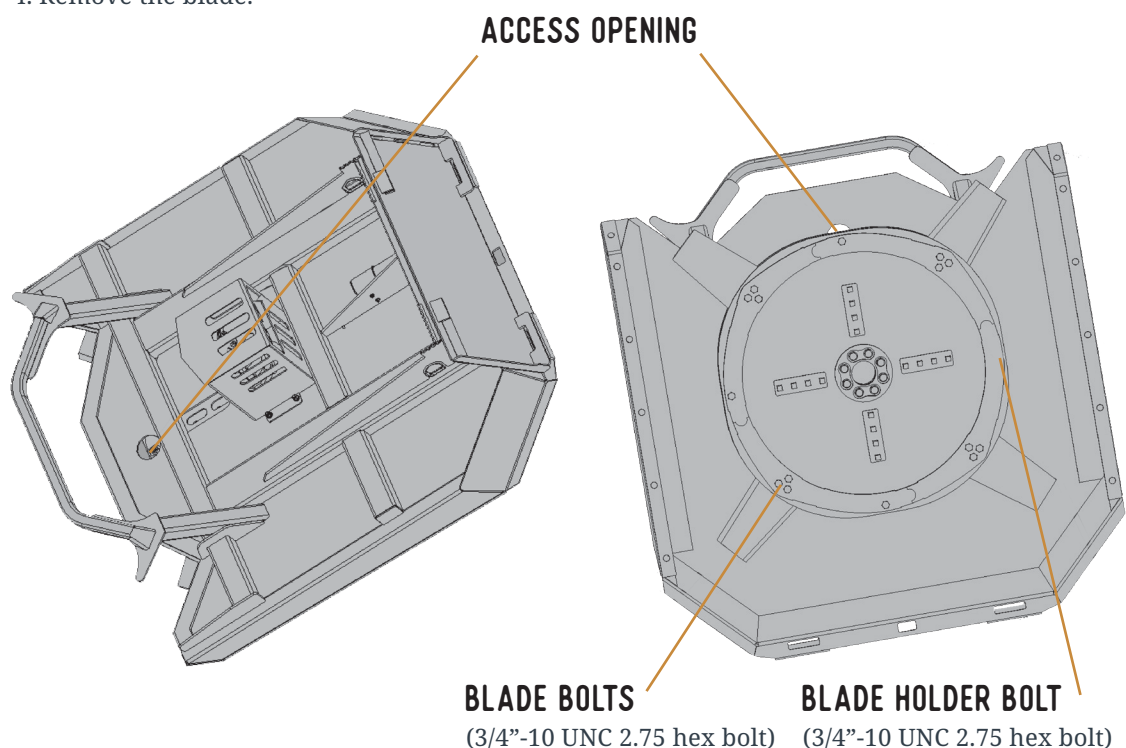

FIGURE 3.6A BLADE HOLDER ACCESS OPENING & BOLT DIAGRAM
2. SLOWLY rotate the blade holder until the blade holder nut is visible in the access opening at top of the deck and loosen the blade holder nut. DO NOT let bolt fall from holder. Repeat this step for the other three blade holder nuts. See figure 3.6a below.